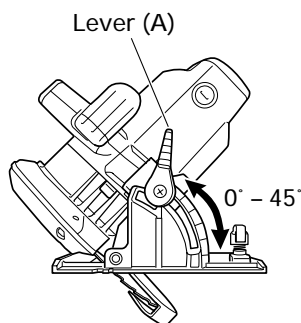

Fig. 11
As shown in Fig. 11 by loosening the lever (A) on the bevel scale, the saw blade may be inclined to an angle of 45° in relation to the base.